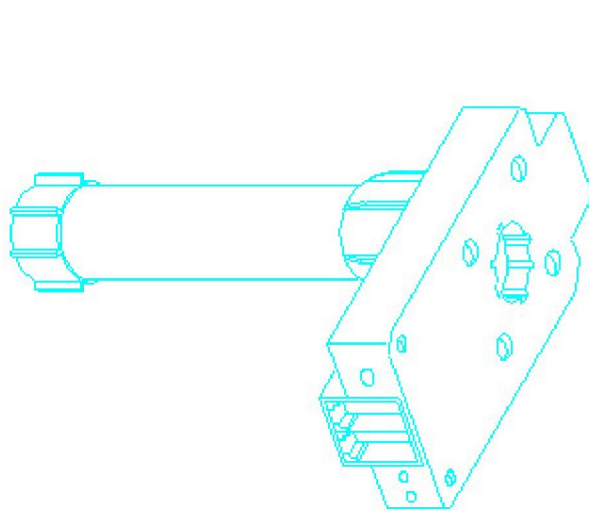

Figure 1
- a. One Transmission box (Figure 1)